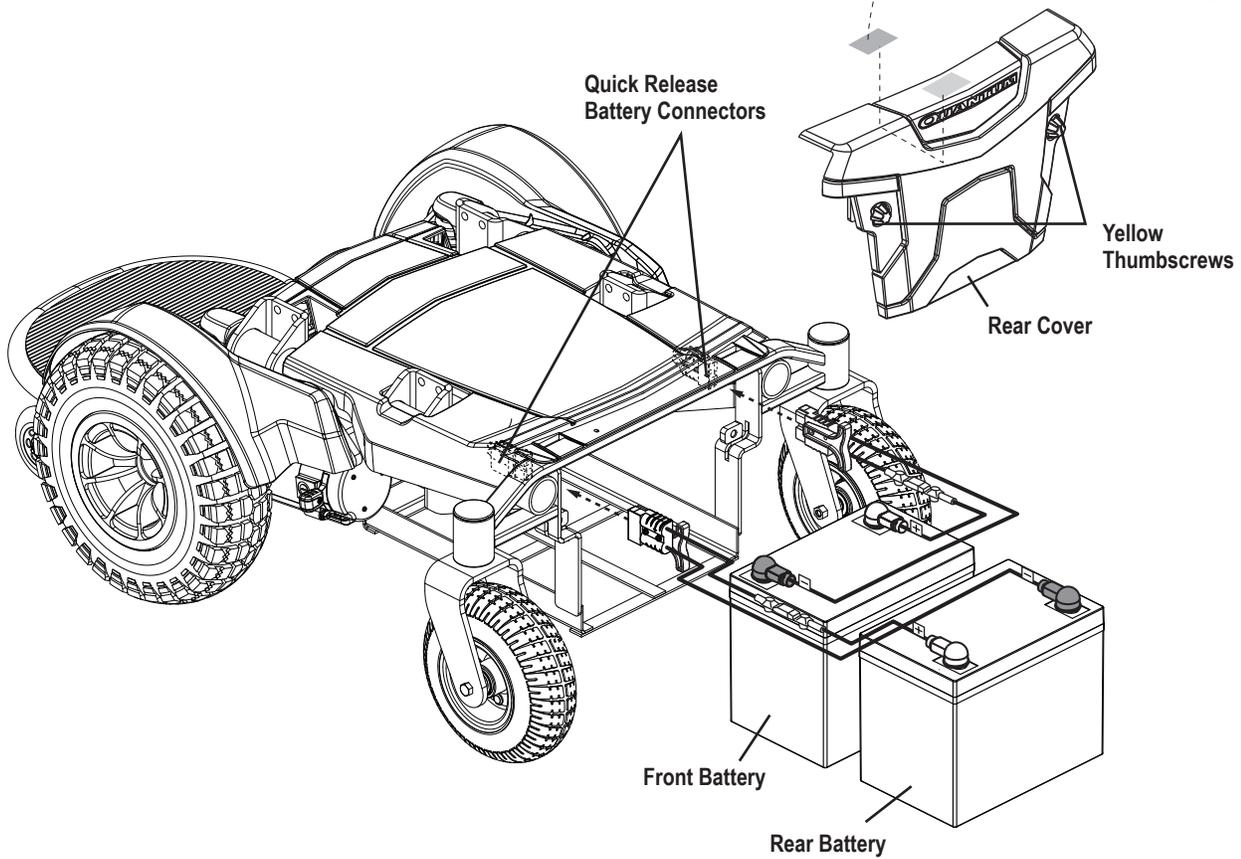

Figure 18. Battery Installation
3. Loosen the yellow thumbscrews (**see figure 18**) and remove the rear cover.
7. Connect the battery harness to the new front battery according to the battery wiring diagram. **See figure 18.**
8. Connect the battery harness to the new rear battery according to the battery wiring diagram. **See figure 18.**